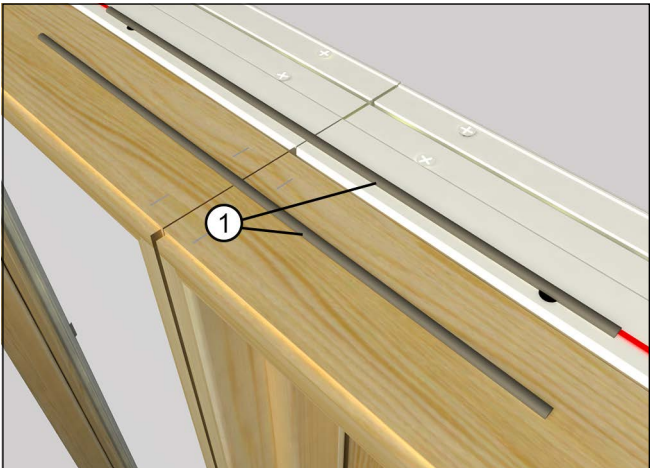

Figure 12 ELOFDG3
2. Apply two 1/4" x 12" beads of construction adhesive on the frame beneath where the mull brackets will be applied. See Figure 11and Figure 12.